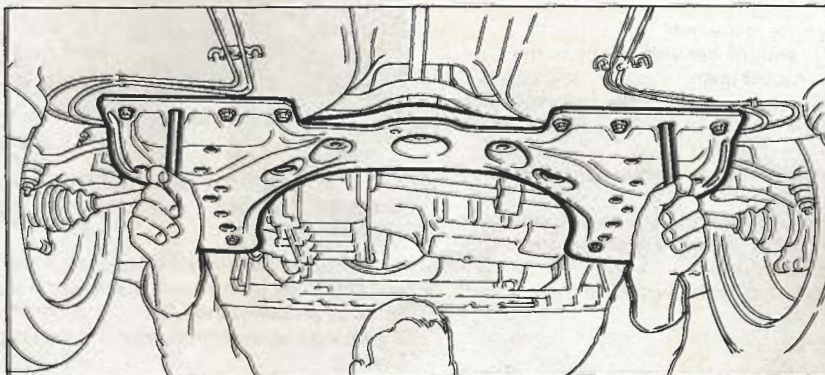

Fig. 9.5 Aligning the front subframe using dowels (Sec 10)
- 16 Insert two 12.0 mm dowels through the alignment holes in the rear of the subframe, so that they rest in the corresponding holes in the vehicle underbody - see Fig. 9.5. This will ensure correct alignment of the subframe.